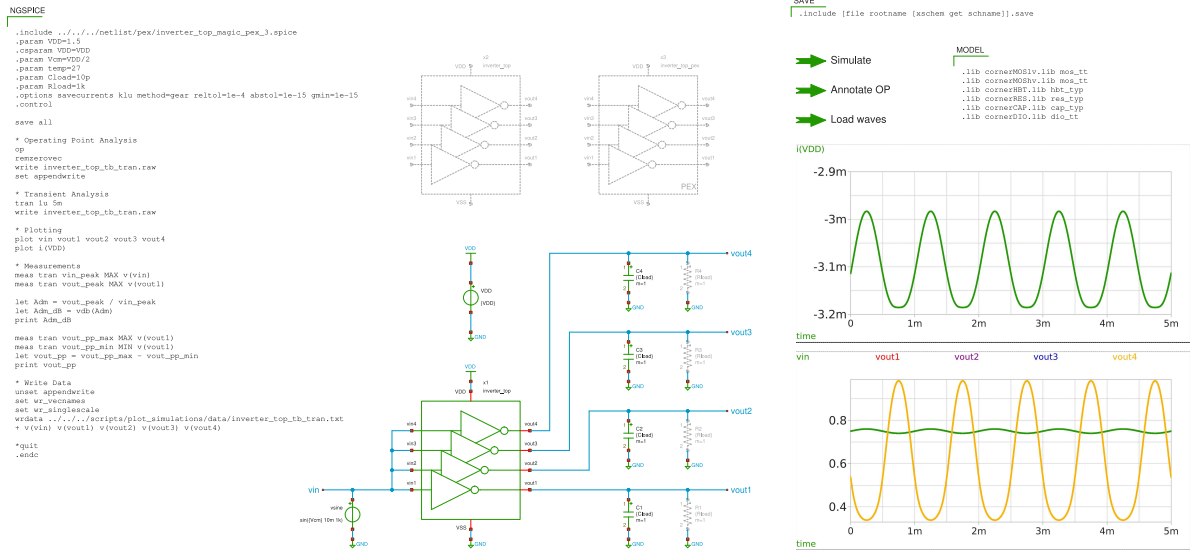

Figure 11: Xschem top-level testbench `inverter_top_tb_tran` (transient on `inverter_top`).
- `inverter_top_tb_tran.sch`, top-level transient on `inverter_top` (see Figure 11).